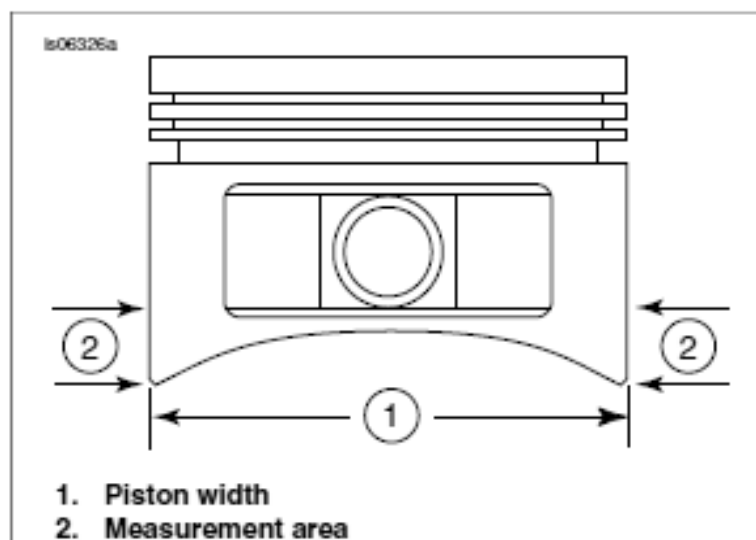

Figure 1. Piston Measurements
5. See Figure 1. Measure the piston width (1), 90 degrees horizontally from both sides of the piston pin hole and at **0.500 in.** above (2), the lowest portion of the skirt. See Table 2 for piston-to-cylinder fit at this location.